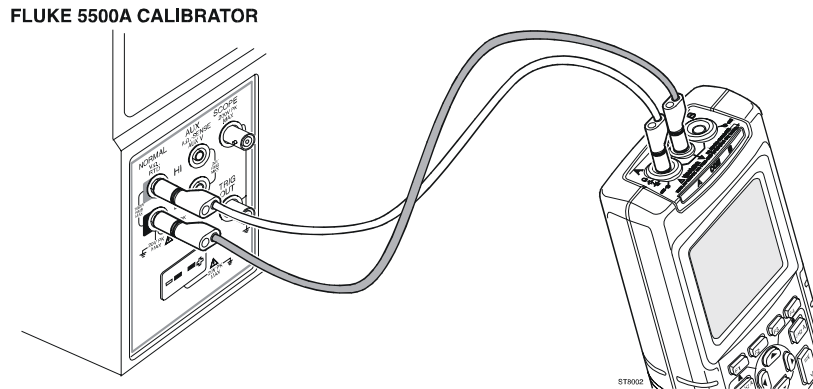

Figure 5-8. Capacitance Gain Calibration Input Connections
2. Connect the test tool to the 5500A as shown in Figure 5-8.